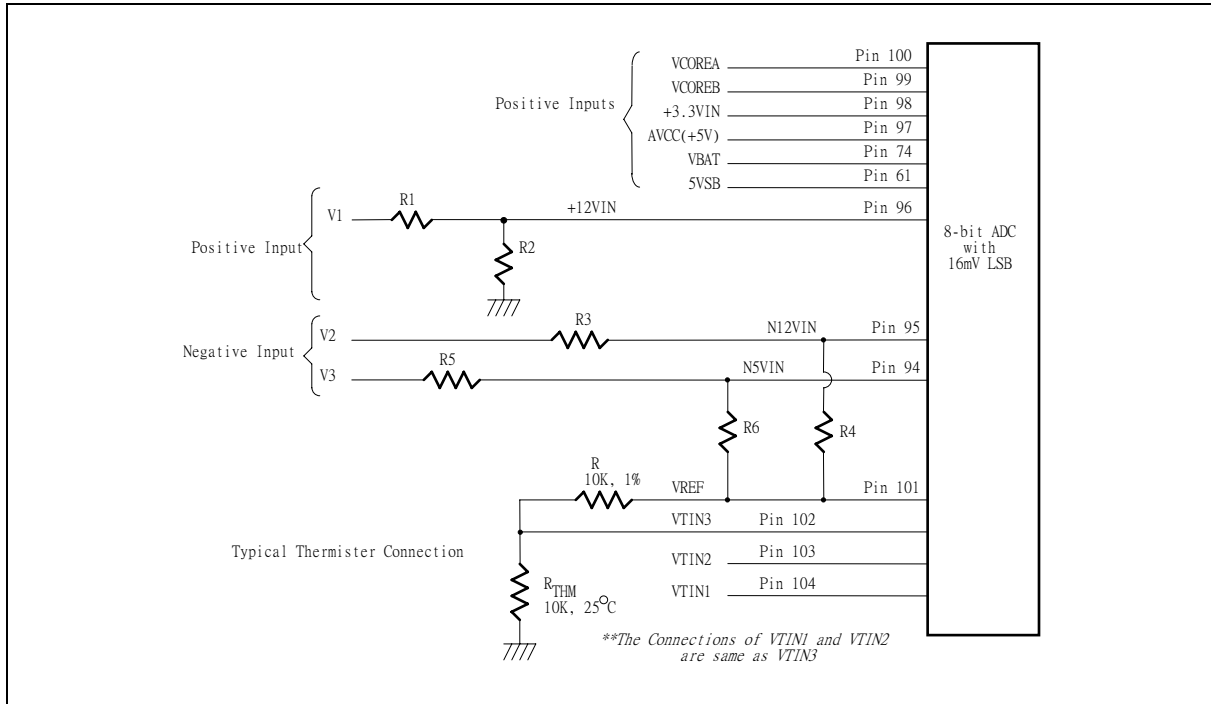

Figure. 8.2
The maximum input voltage of the analog pin is 4.096V because the 8-bit ADC has a 16mV LSB. Really, the application of the PC monitoring would most often be connected to power suppliers. The CPU V-core voltage, +3.3V, battery and 5VSB voltage can directly connected to these analog inputs. The +12V,-12V and -5V voltage inputs should be reduced a factor with external resistors so as to obtain the input range. As Figure 8.2 shows.
The negative voltage should be connected two series resistors and a positive voltage VREF (is equal to 3.6V) . In the Figure 8.2, the voltage V2 and V3 are two negative voltage which they are -12V and -5V respectively. The voltage V2 is connected to two serial resistors then is connected to another terminal VREF which is positive voltage. So as that the voltage node N12VIN can be obtain a posedge voltage if the scales of the two serial resirtors are carefully selected. It is recommanded from Winbond that the scale of two serial resistors are R3=232K ohm and R4=56K ohm. The input voltage of node N12VIN can be calculated by following equation.
The W83627HF can connect three thermistors to measure three different environment temperature. The specification of thermistor should be considered to (1) β value is 3435K, (2) resistor value is 10K ohms at 25°C. In the Figure 8.2, the thermistor is connected by a serial resistor with 10K Ohms, then connect to VREF (Pin 101) .